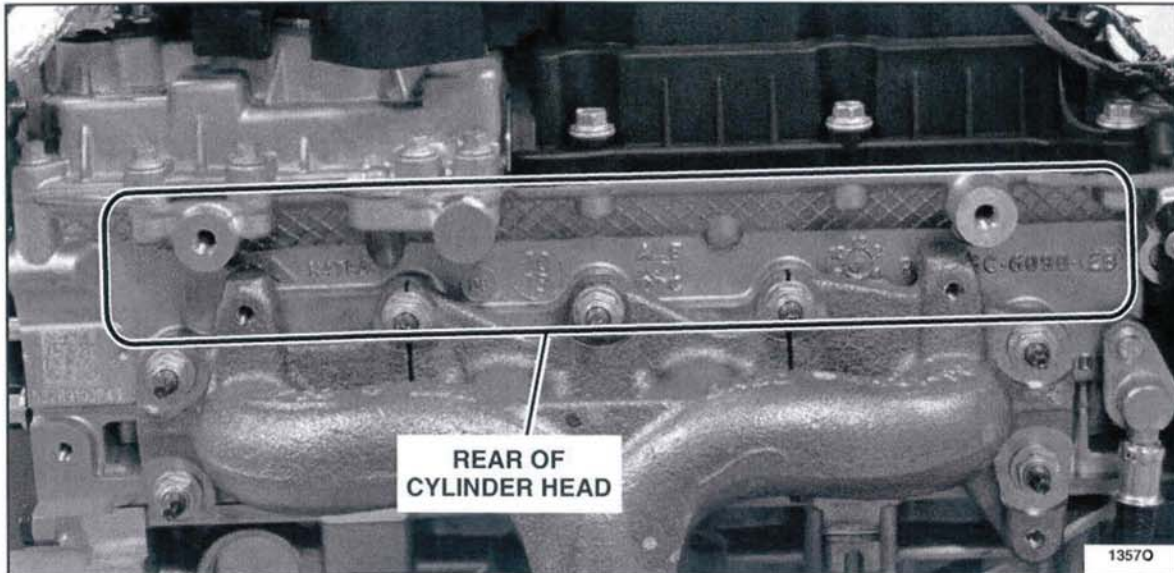

FIGURE C5
6. Prepare the cylinder head for the *new* cast engine shield installation. See Figure C5.
- b. Using one (1) towelette from the Motorcraft® ZC-31B (Bonderite 1455) canister, wipe the rear of the cylinder head in the area shown. This etches the aluminum to allow proper bond with the LOCTITE® 5920 copper RTV silicone.